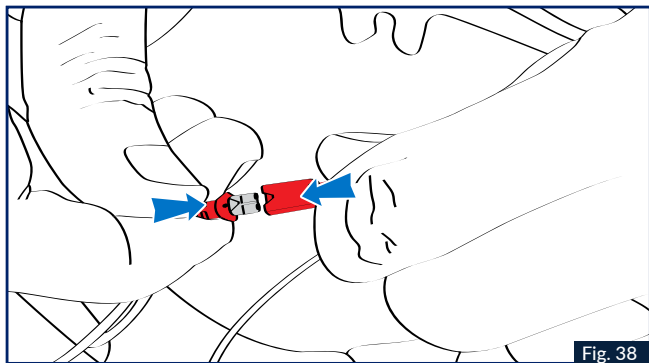

Fig. 38
9. Connect the microphone (red connector), and the keypad as shown in Fig. 38